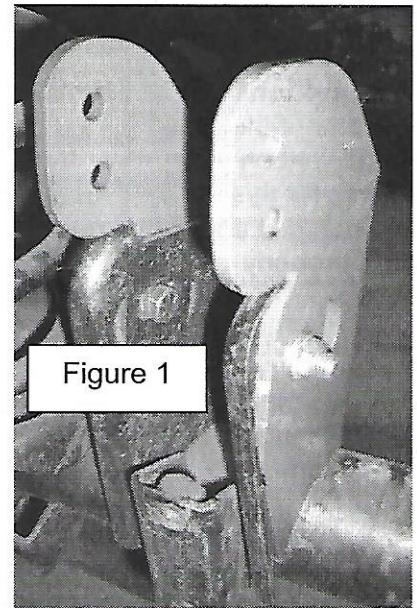

Figure 1
**Step 4: Position Extension Bracket to stock RRUCA tower.** The new extension bracket slips over the stock bracket from behind as shown in **figure 1**. Line up the lowest holes on either side of the new bracket with the original RRUCA holes on the axle tower. You will notice that the new bracket has two half-circle holes in it just behind the lower holes – these are to clear the ‘dimples’ on the side of the stock tower. You may need to spread the new bracket a bit before attempting to get it around the stock tower. You should spread it just enough so that you can tap the new bracket over the dimples and ‘snap’ into place. Don’t spread it too much since it needs to ‘come back to square’ once it’s on.
**Step 3:** Remove existing/stock track bar. Your TJ may still be using the original T55 Torx-head bolt at the axle end of the rear track bar – and it is likely installed from the rear and will require lowering the axle to allow it's removal. Once the axle-end bolt is removed, remove the frame-end bolt and pull the track bar out of the pocket at the axle end (**figure 1**) and leave it out of the vehicle for now.